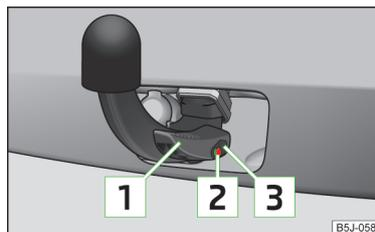

Fig. 121 Check that the ball head is fitted properly
- ✓ Lever **[1]** is up as far as it goes » Fig. 121.